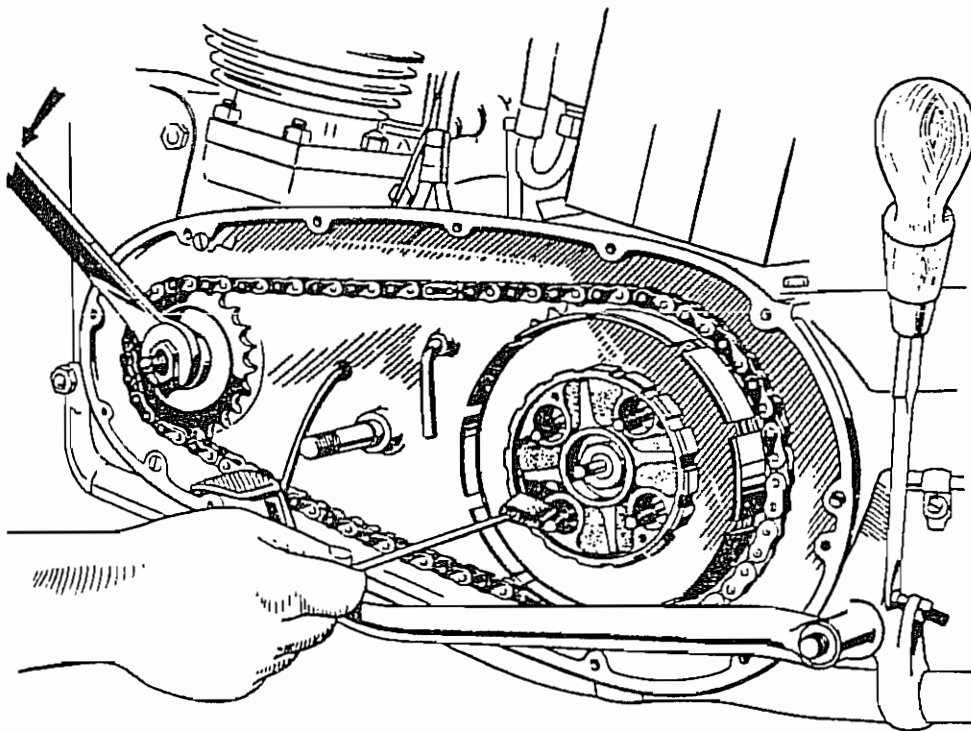

Fig. 29. METHOD OF REMOVING SHOCK ABSORBER RUBBERS
**Replacing New Shock Absorber Rubbers.** Position the four drive rubbers (See Fig. 29) and exert pressure on the spanner to replace the rebound rubbers.